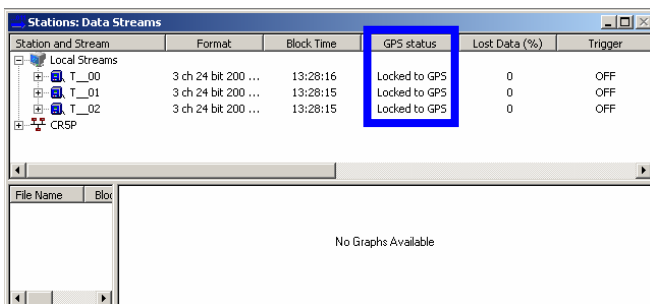
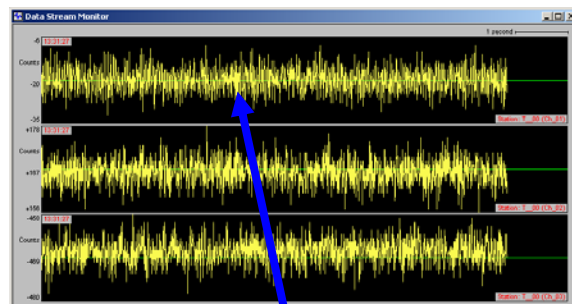

Figure 18. GPS status as ‘Locked to GPS’
Figure 19. Data Stream is in yellow
- When GPS is synchronised, the ‘GPS status’ will read “Locked to GPS”, as shown in Figure 18. The Data Stream in the ‘Data Monitor’ will be in yellow, as shown in Figure 19.